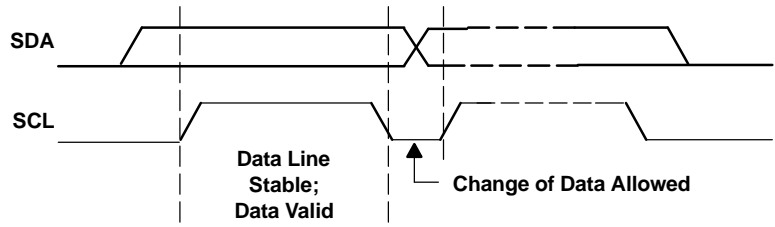
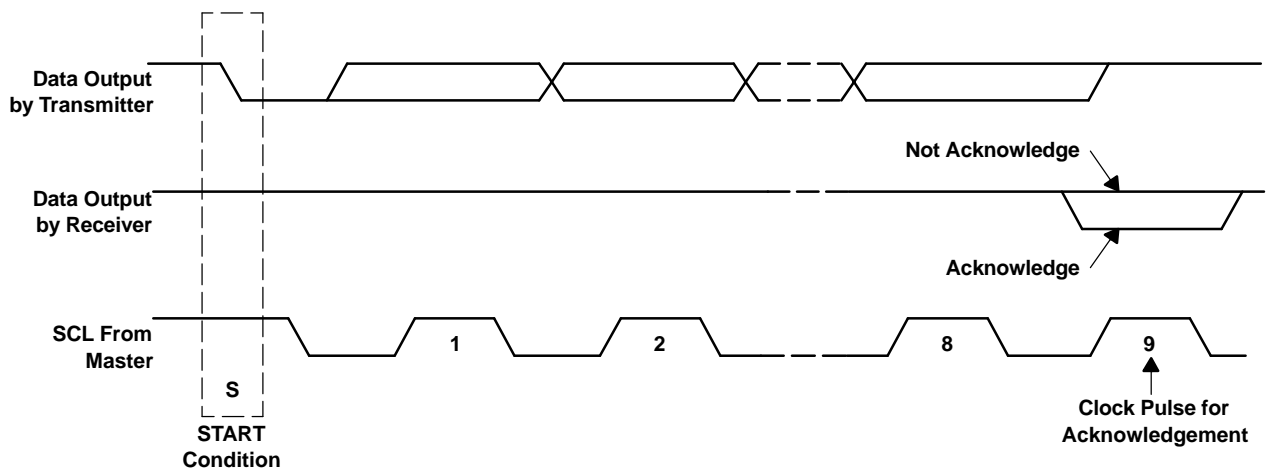

Figure 42. Bit Transfer on the I²C Bus
Figure 43. Acknowledge on the I²C Bus
- The master then generates the SCL pulses and transmits the 7-bit address and the *read/write direction bit* R/\overline{W} on the SDA line. During all transmissions, the master ensures that data is *valid*. A *valid data condition* requires the SDA line to be stable during the entire high period of the clock pulse (see Figure 42). All devices recognize the address sent by the master and compare it to their internal fixed addresses. Only the slave device with a matching address generates an *acknowledge* (see Figure 43) by pulling the SDA line low during the entire high period of the ninth SCL cycle. On detecting this acknowledge, the master knows that a communication link with a slave has been established.